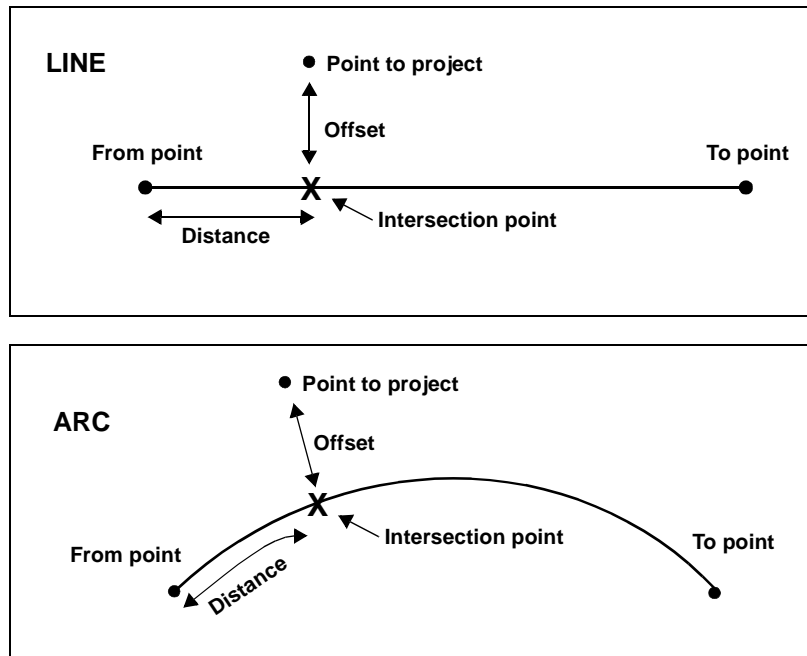

Figure 28-1: Point projections
- ☒ **Note:** The **From** field plus one of the other point fields (**To pt**, **Center** or **Intersect pt**) **MUST BE ENTERED**. If points are specified for three of the four possible point fields, the arc details will be computed from the relationship of these points. Otherwise one of the arc definition fields (**Radius**, **Angle**, **Arc len**, **Chord ln**, **Tan len** or **Back tan**) can be entered to fully define the arc. See Figure 28-1 for an illustration of the arc definition values that can be specified. The values for the rest of the fields are calculated and displayed (except for the point fields).